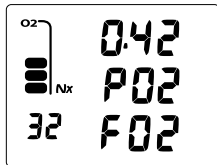

Fig. 69 - NOR DIVE ALT 2
**NOR DIVE ALT 2** (if Nitrox), information includes (Fig. 69) -